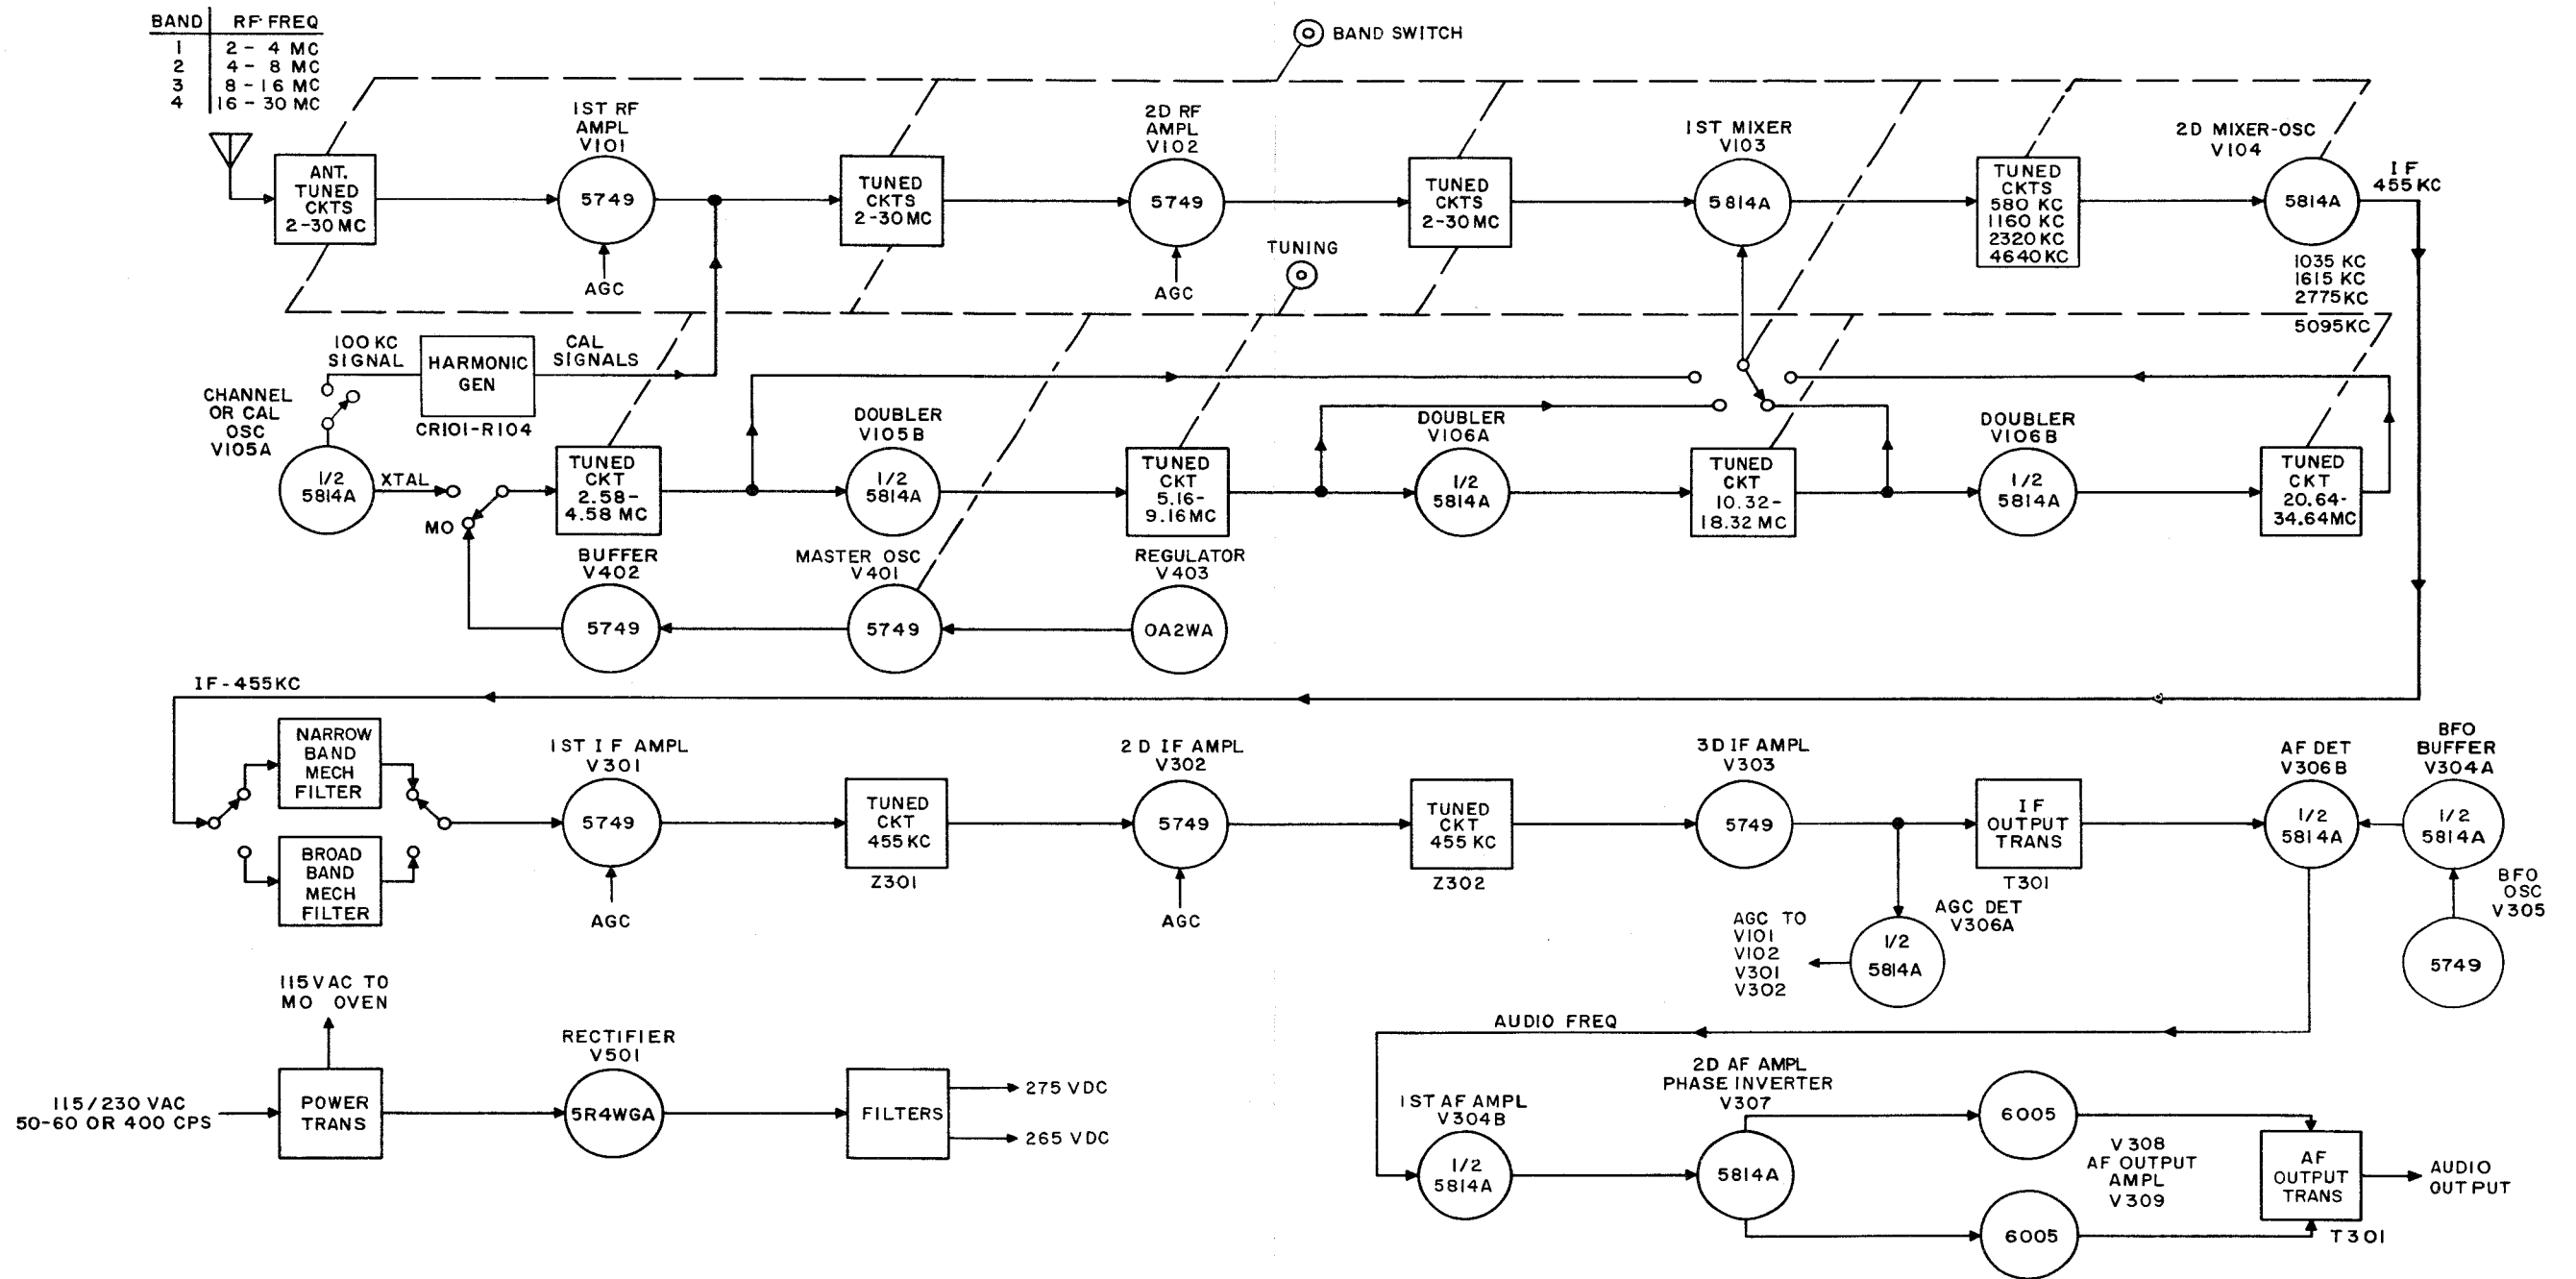

Figure 2-3. Radio Receiver R-627(XN-1)/URC-8, Block Diagram
## 2. RADIO RECEIVER THEORY (figures 2-3 and 5-6)
a. INTRODUCTION. - Figure 2-3 is a functional block diagram of Radio Receiver R-627(XN-1)/URC-8 which shows the signal paths through the equipment. Figure 5-6 is the complete schematic diagram of the radio receiver.